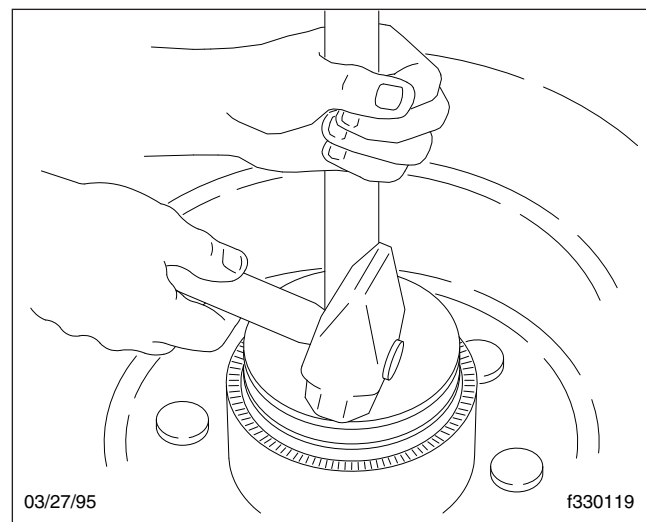

Fig. 5, Position the Seal
- 6.3 Position the oil seal in the hub bore. Before striking the handle of the installation tool, tap the adaptor plate around the outer edge to position the seal. See Fig. 5.